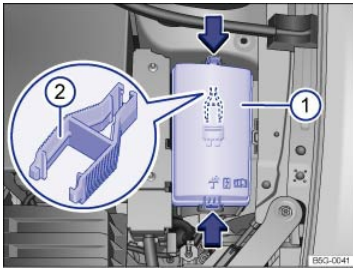

Fig. 163 In the engine compartment: Fuse box cover ① with tweezers ②.
- *To remove:* Press the release tabs in the direction of the arrows ⇒ Fig. 163 to unlock the fuse box cover ①.
In some vehicles, there are plastic tweezers for removing fuses on the inside of the fuse box cover ⇒ Fig. 163②.